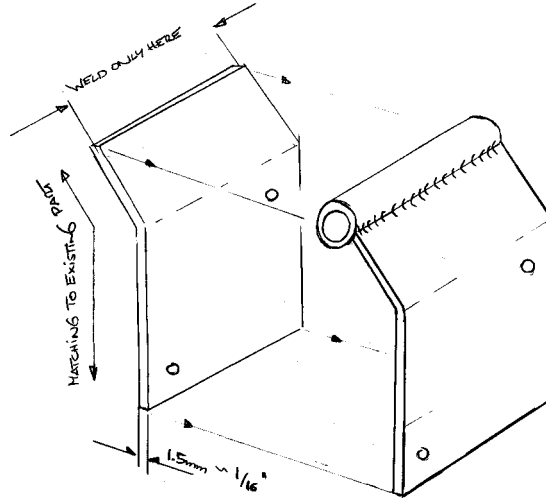

Fig. 2. Latch modification
- In case cracks are found in the latches perform modification of the latches according to figure 2 or install new latches (P/N PC-23303.8P1 for both front latches and the rear right; PC-23303.8P2 for rear left).
- The latches are custom fit for every A/C. Hence new parts need to be trimmed for the specific application. When ordering new parts please exactly specify the dimensions of your latch (length, bend angle, and sleeve position). Reinforcements of old parts as shown in figure. 2 are to be custom fit as well.